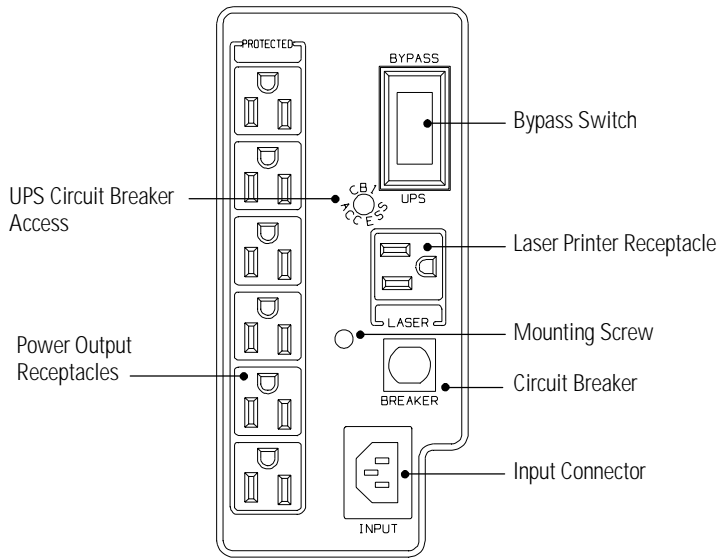

Figure 13. PowerPass Front Panel (120V Model)
2. Toggle the Bypass switch on the PowerPass to the BYPASS position (see Figure 13 or Figure 14). The PowerPass is now powering your equipment from utility power.
4. Switch the circuit breaker on all battery cabinets to the OFF (O) position.